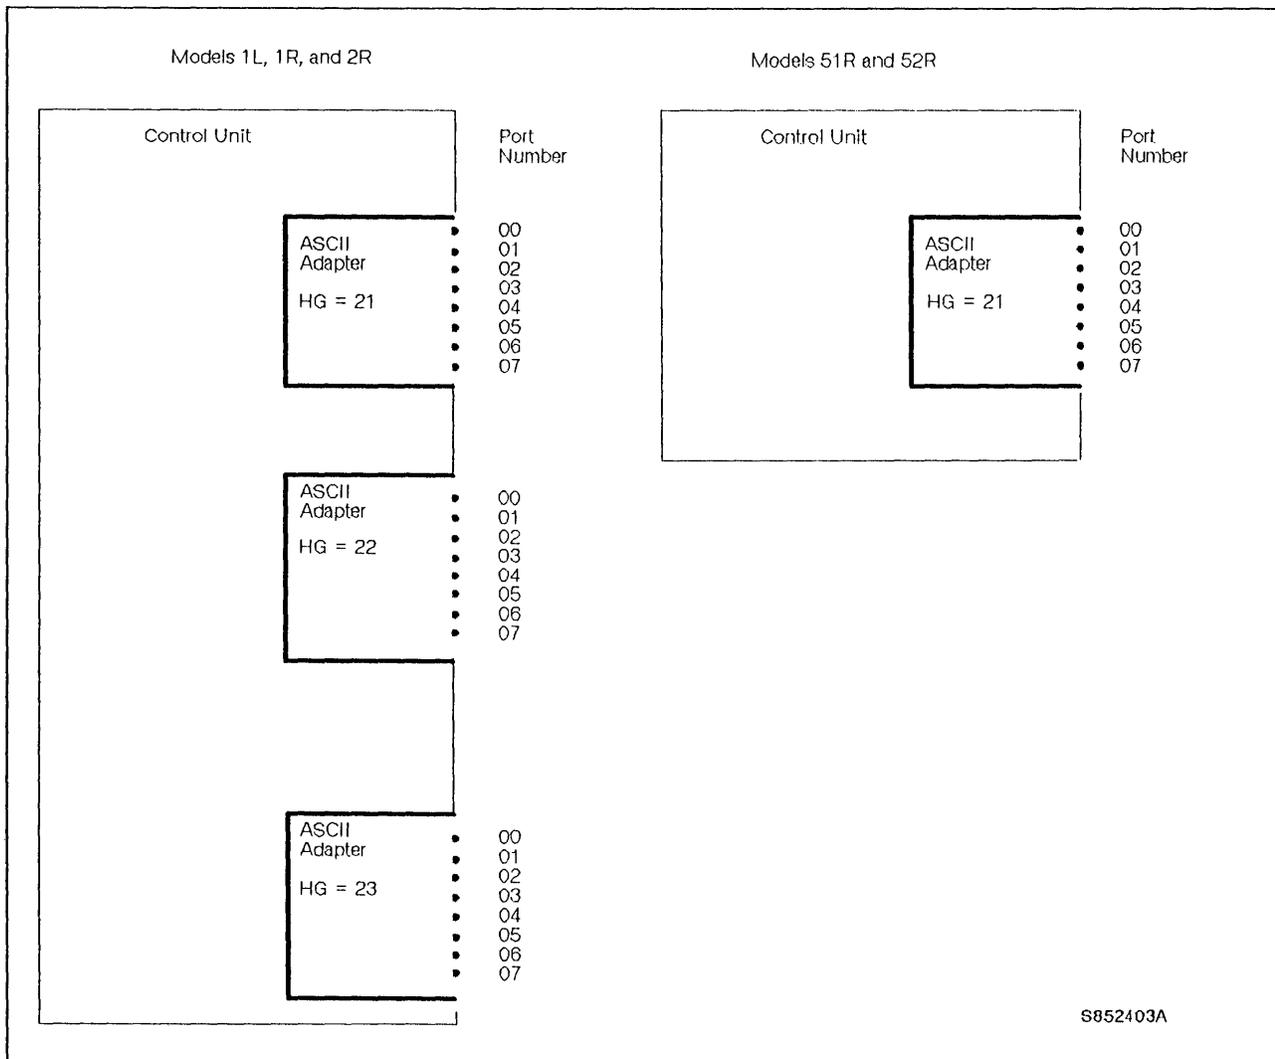

Figure 2. Asynchronous Emulation Adapter Hardware
Each AEA is identified by a hardware group (HG) number and each AEA port is identified by an AEA port number (see Figure 2 on page 4).